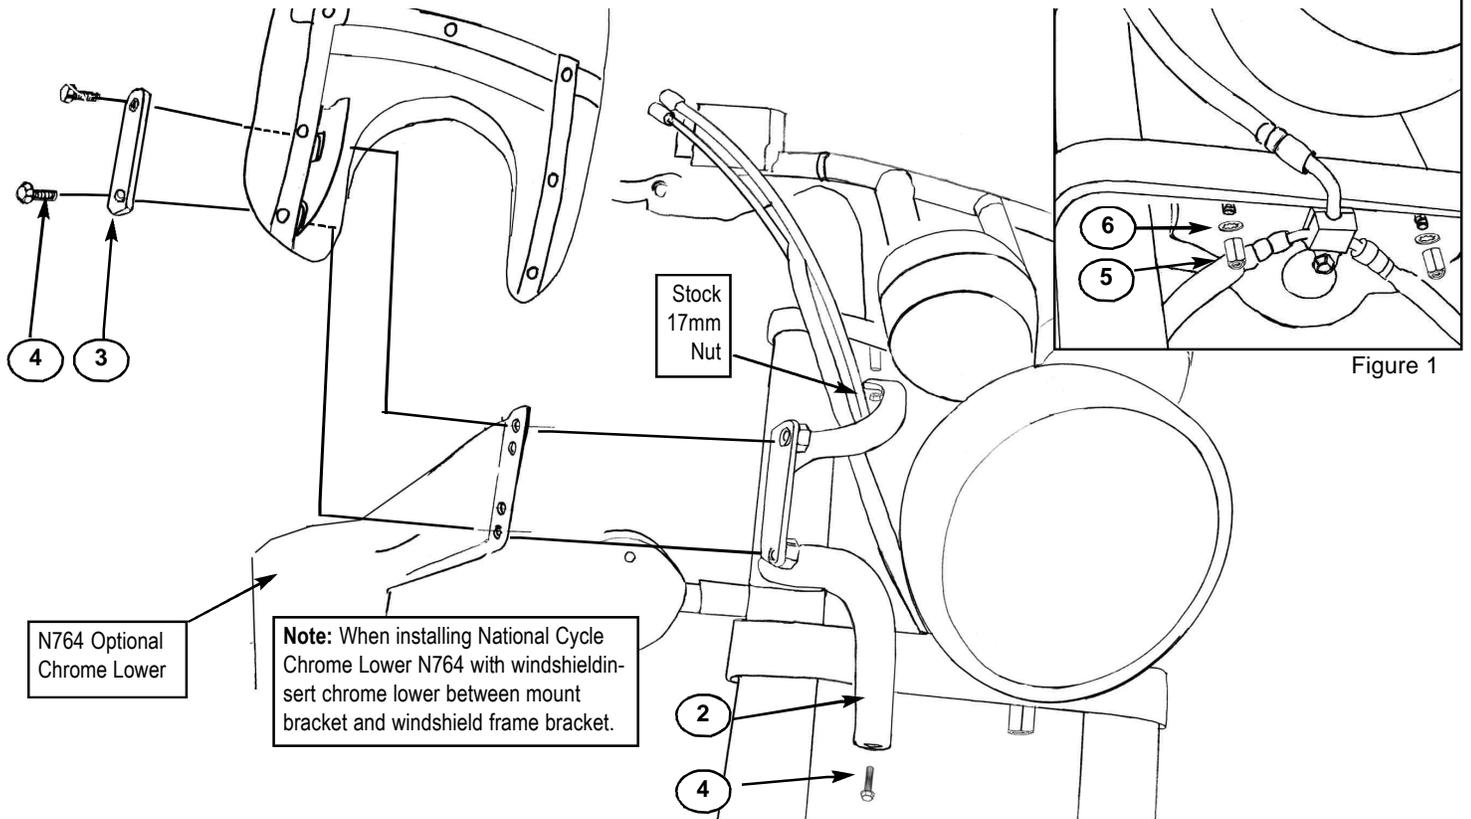

Figure 2
**Note:** If installing Chrome Lowers N764 with Windshield- refer to Figure 2.